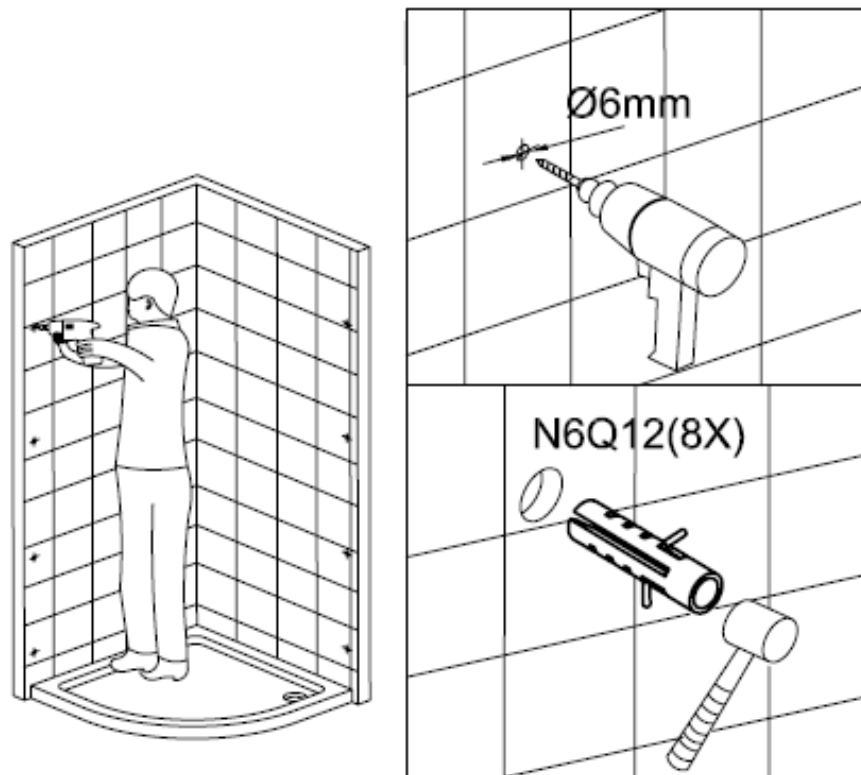

Figure 2
2. Drill the holes( $\varnothing 6\text{mm}$ ) into the wall according to the marks made and insert the wall plugs (N6Q12) into the holes, as shown in figure 2.